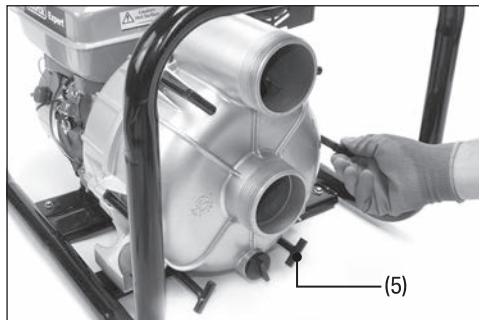

Fig. 14
1. Detach the strain filter (F) from the suction hose and clean all parts of the filter with warm soapy water and a soft brush.
3. Twist the 'T' handles (5) anticlockwise and pull the cover away from the pump (fig.14).